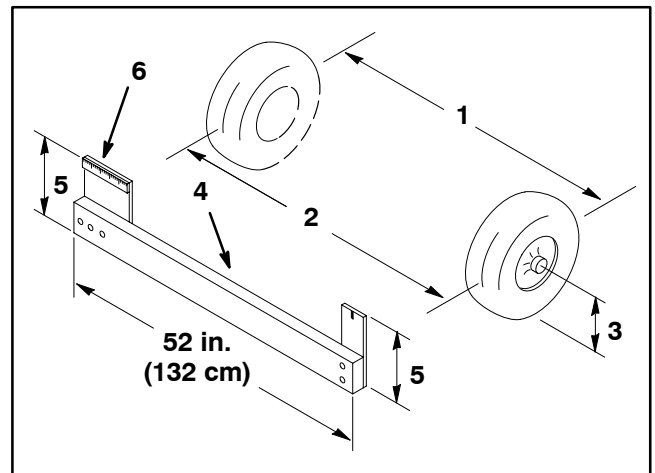

Figure 8
4. Measure distance between the front tires at axle height at both the front and rear of the tires. To obtain an accurate measurement at axle height, a universal alignment gauge (or equivalent) should be used (Fig. 8). Front wheel toe-in should be 1/8 to 5/8 inch (3 to 16 mm).